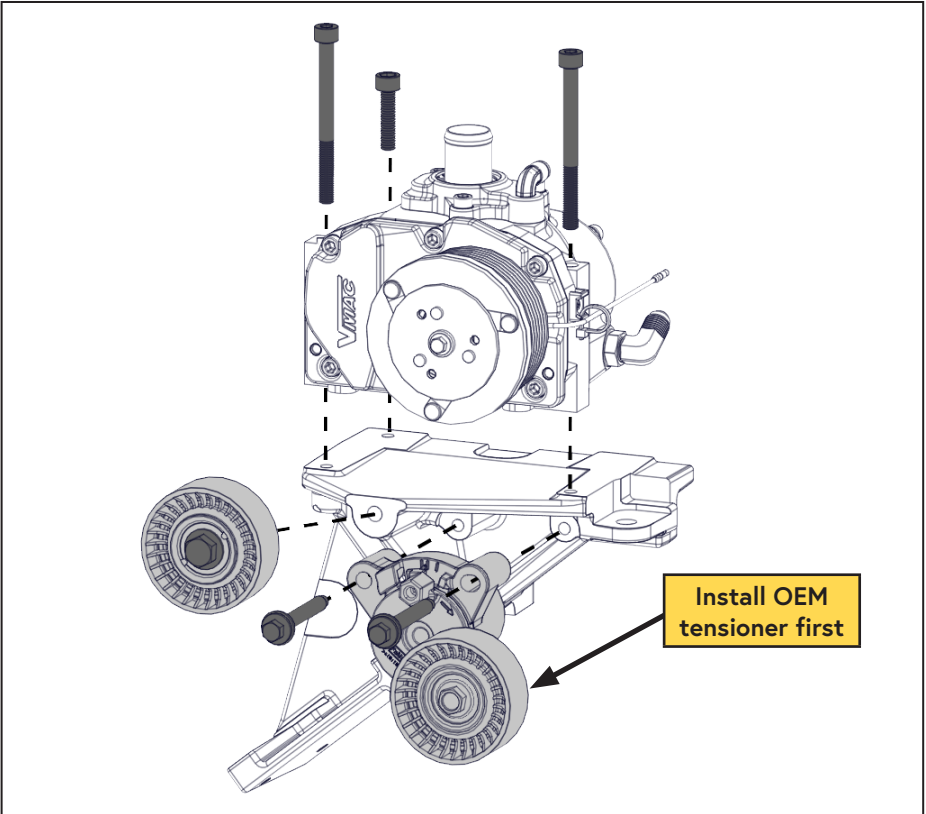

Figure 20 — Install main bracket components
- Install the OEM 4 rib belt tensioner on the VMAC main bracket using the original OEM bolts (Figure 20).
- Install the supplied idler onto the main bracket (Figure 20)
- Mount the compressor assembly onto the main bracket using the supplied fasteners (Figure 20).